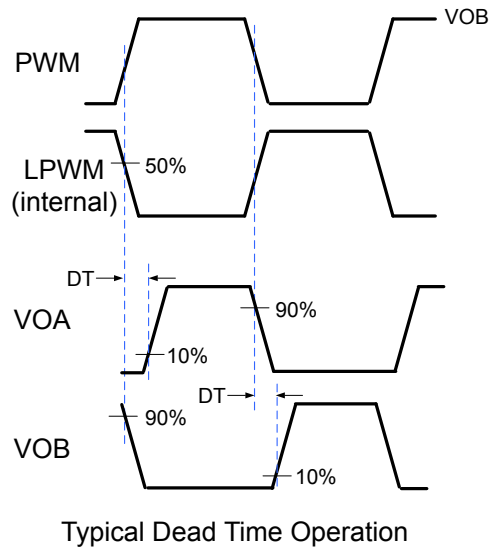

Figure 2.20. Dead-Time Waveforms for Si8274x Drivers
All high-side/low-side drivers with a single PWM input (Si8274x) include programmable dead time, which adds a user-programmable delay between transitions of VOA and VOB. When enabled, dead time is present on all transitions. The amount of dead time delay (DT) is programmed by a single resistor (RDT) connected from the DT input to ground per the equation below. Note that the dead time pin should be connected to GNDI through a resistor between the values of 6 k $\Omega$  and 100 k $\Omega$ . A filter capacitor of 100 pF in parallel with RDT is recommended. See Figure 2.20 on page 18 below.